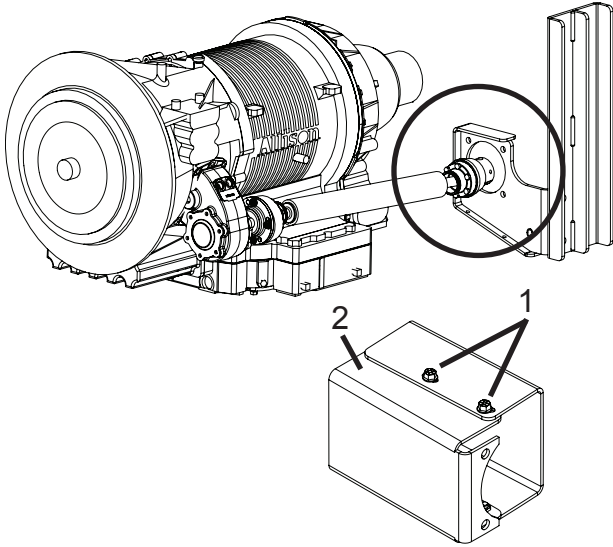

Figure 6
1. Remove and retain the hardware (Figure 6, Item 1) from the square Pump Mount cover (Figure 6, Item 2).